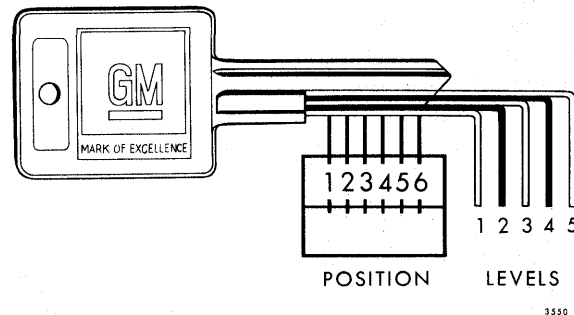

Fig. 1-2-Key Code Diagram
After code number has been recorded by owner, plugs should be knocked out of key head. From these numbers, lock combination can be determined by use of a code list (available to owners of key cutting equipment from equipment suppliers). If key code numbers are not available from records or from "k-nock-out" plug, lock combination (tumbler numbers and position arrangement) can be determined by laying key on diagram in Figure 1-2.
After the special code has been determined, either from code list or Key Code Diagram (Fig. 1-2) cut blank key to the proper level for each of six tumbler positions, and check key in lock cylinder. The new key should agree with combination opposite code number in code list.
- a. Lay key on Key Code Diagram (Fig. 1-2) with key outlined by diagram as accurately as possible.